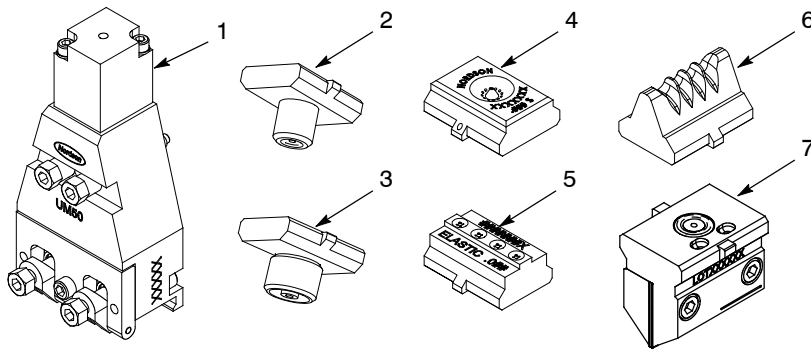

Figure 9-1 UM50 module and associated adapters and nozzles
This section provides troubleshooting, repair, parts, and specification information for applicators with UM50 Universal modules. The UM50 module, either directly or through the use of an adapter, can dispense adhesive in a variety of spray applications, including Controlled Fiberization (CF), Summit, SureWrap, and Signature applications. Table 9-1 shows the available UM50 modules. Figure 9-1 shows the key components of the UM50 module parts family.